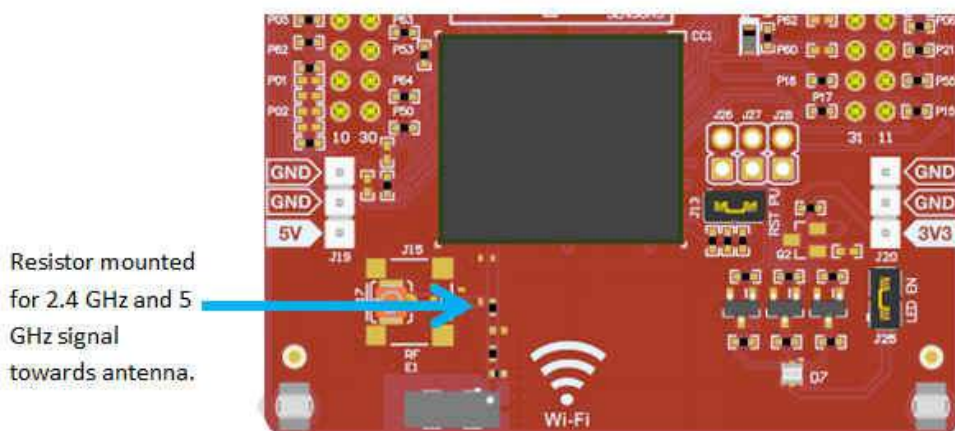

**Figure 4-3. Active Current Measurement**
1. Remove the VBAT jumper (J18) as shown in Figure 4-3.